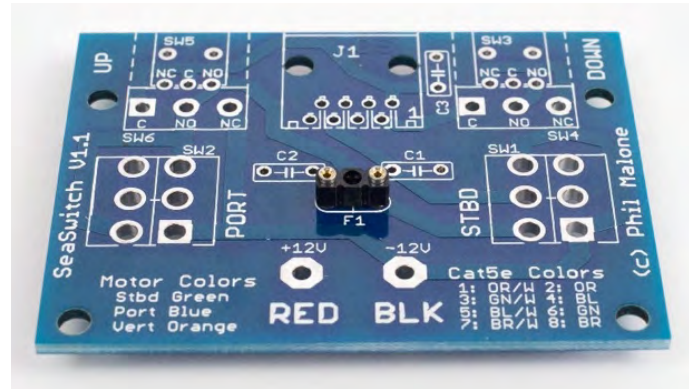

Figure 8
- ❑ Place its two terminals through the location labeled F1 on the component side of the PCB. (Figure 8)